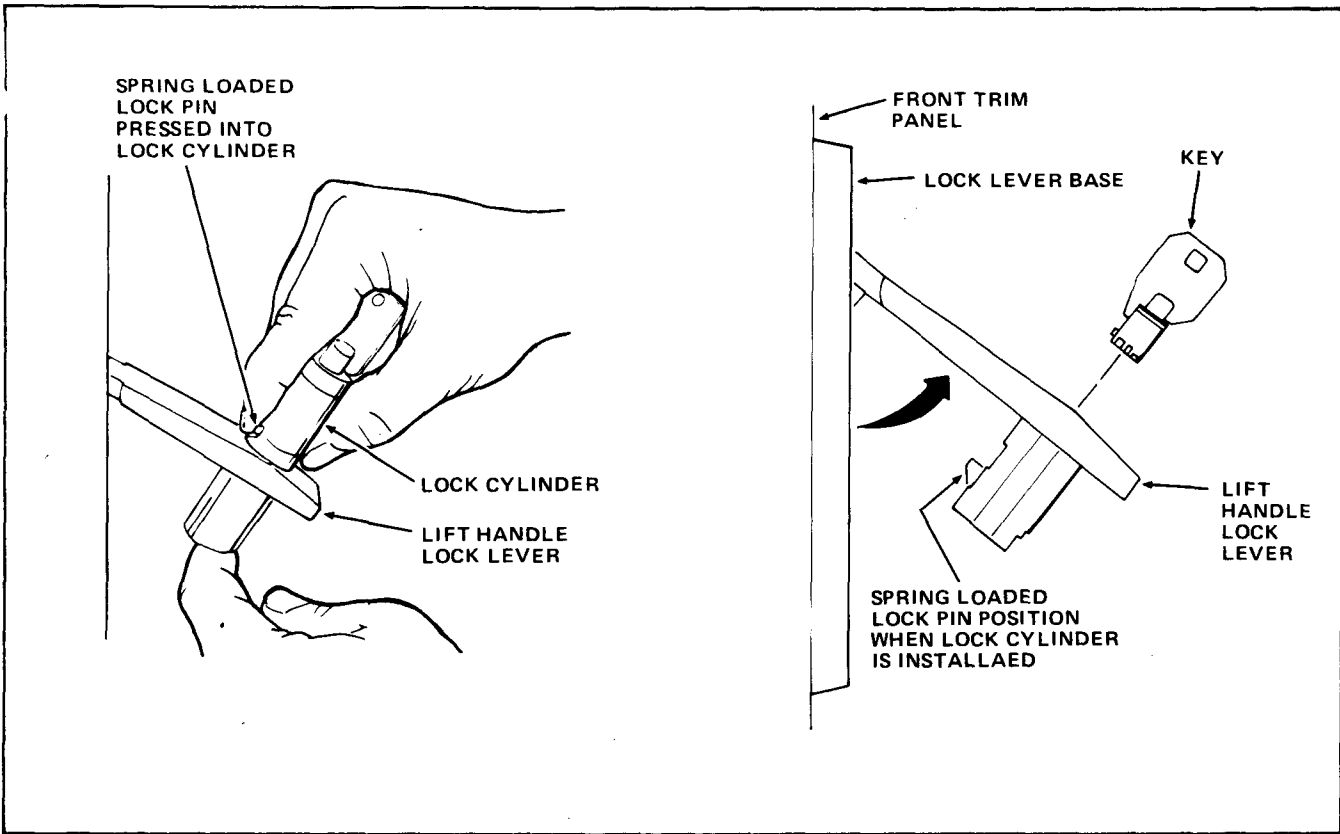

FIGURE 10
17. Insert the Lock Cylinder into the Lift Handle Lock Lever, Lock-pin up. See Figure 10.